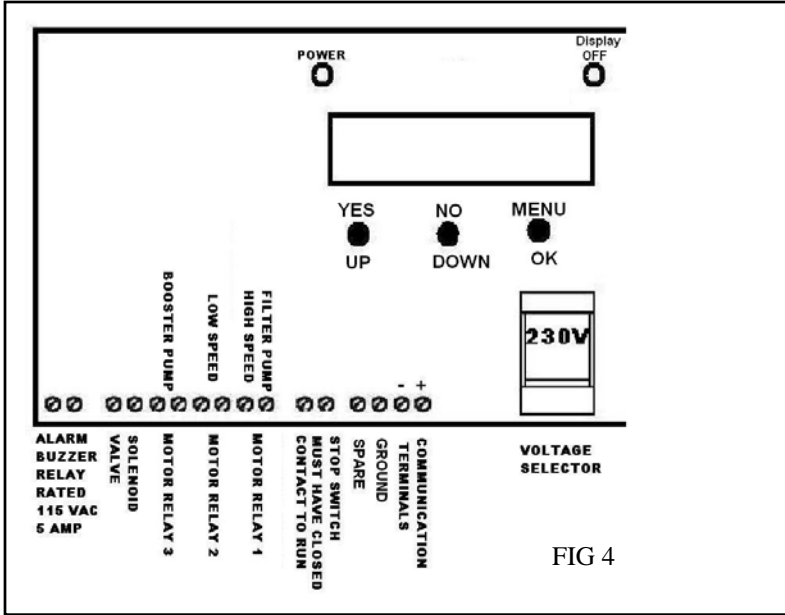

FIG 4
2. To install optional contactors the factory-installed wires attached must be connected to the proper terminals on the circuit board. For a booster pump always use motor relay 3 on the board as shown in FIG. 4.